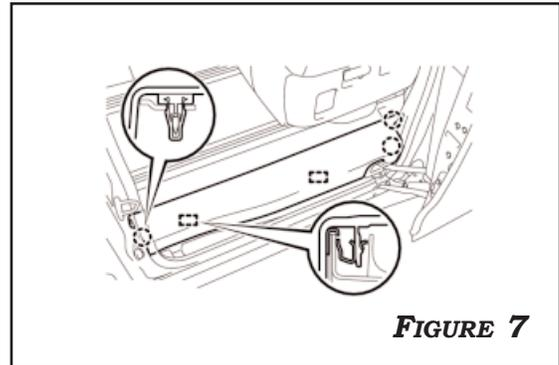

FIGURE 7
7. USE TRIM TOOL TO DISENGAGE THE 5 CLIPS AND REMOVE THE LEFT REAR DOOR SCUFF PLATE. **FIGURE 7**